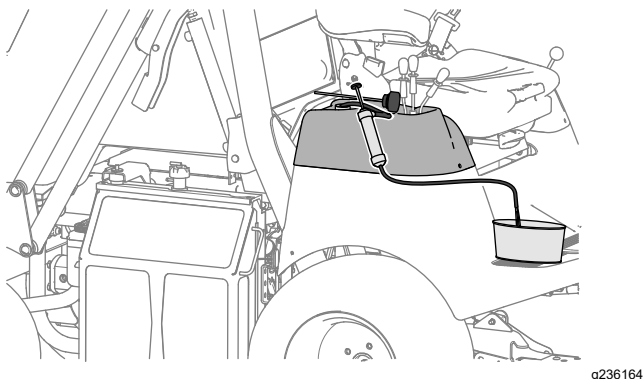

Figure 101
4. Use a siphon pump to empty the hydraulic tank (Figure 101).